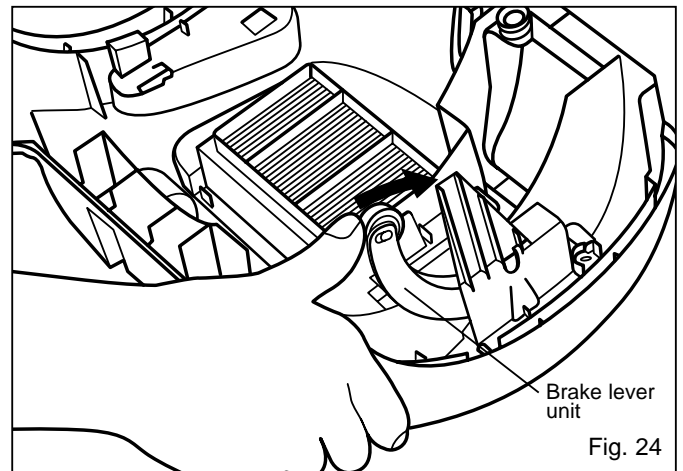

Fig. 24
1. Remove upper body as explained previously in paragraph (1) "Motor", points 1-3.
2. Turn upper body over exposing the underside and remove brake lever unit by pressing it sideways as indicated. (Fig. 24)